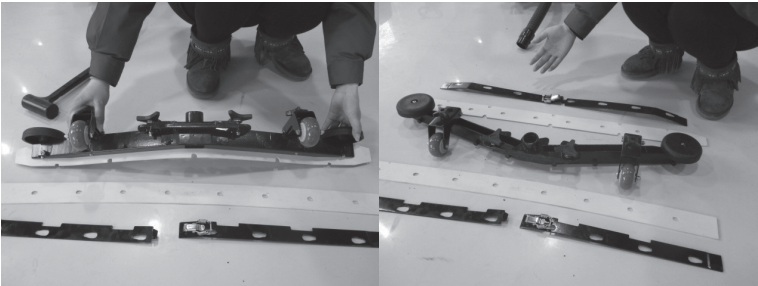

Figure 40
2. Release blade fixation clamp and remove the black blade (Figure 40).